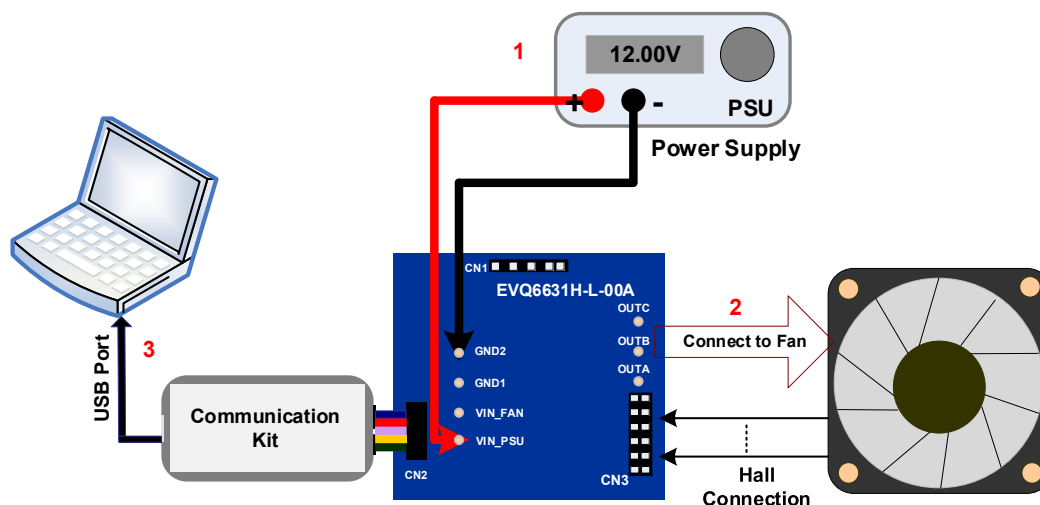

Figure 1: EVB Connection with the Communication Kit
2. Connect the power supply outputs to VIN_PSU and GND (see Figure 1).
Figure 1 shows the equipment set-up with the communication kit.